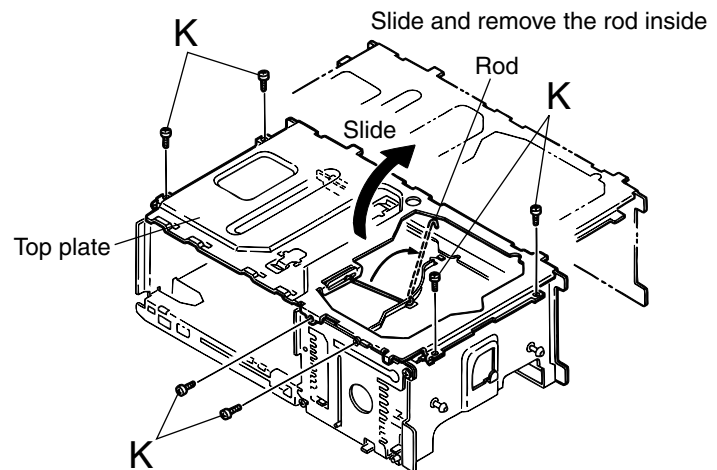

Fig. 17
■ **Top plate (See Fig.17 and 18)**